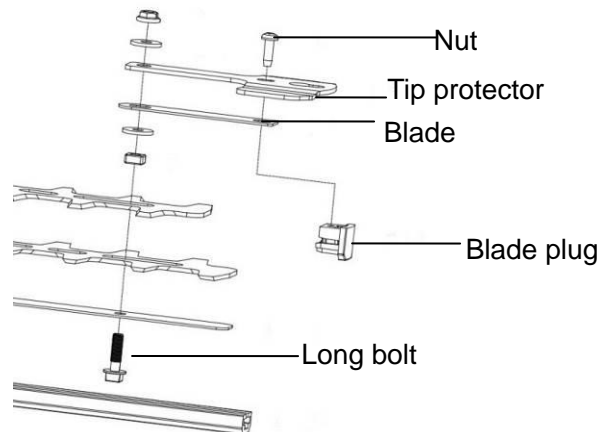

Fig.5B
2. Align the tip protector with the blade plug on the blade and mount it into place. Secure it with a new long bolt and nut and the saved washer, bushing and nut, as shown in Fig.5B.